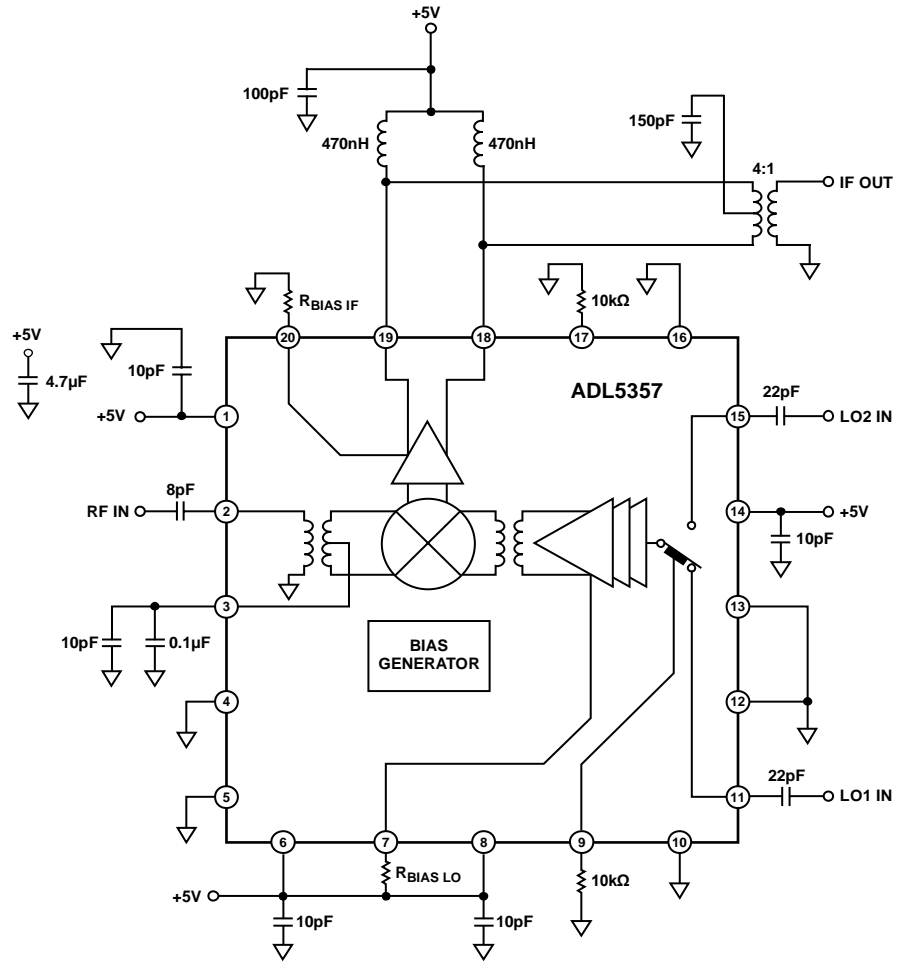

Figure 51. Typical Application Circuit
The ADL5357 mixer is designed to downconvert radio frequencies (RF) primarily between 500 MHz and 1700 MHz to lower intermediate frequencies (IF) between 30 MHz and 450 MHz. Figure 51 depicts the basic connections of the mixer. It is recommended to ac couple RF and LO input ports to prevent non-zero dc voltages from damaging the RF balun or LO input circuit. The RFIN capacitor value of 8 pF is recommended to provide the optimized RF input return loss for the desired frequency band.
The real part of the output impedance is approximately 200  $\Omega$ , as seen in Figure 30, which matches many commonly used SAW filters without the need for a transformer. This results in a voltage conversion gain that is approximately 6 dB higher than the power conversion gain, as shown in Table 3. When a 50  $\Omega$  output impedance is needed, use a 4:1 impedance transformer, as shown in Figure 51.